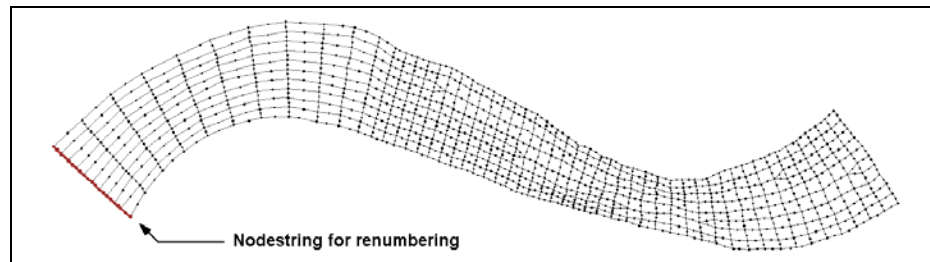

Figure 8-12 The position of the nodestring for renumbering.
2. Create a nodestring across the left section, as shown in Figure 8-12.